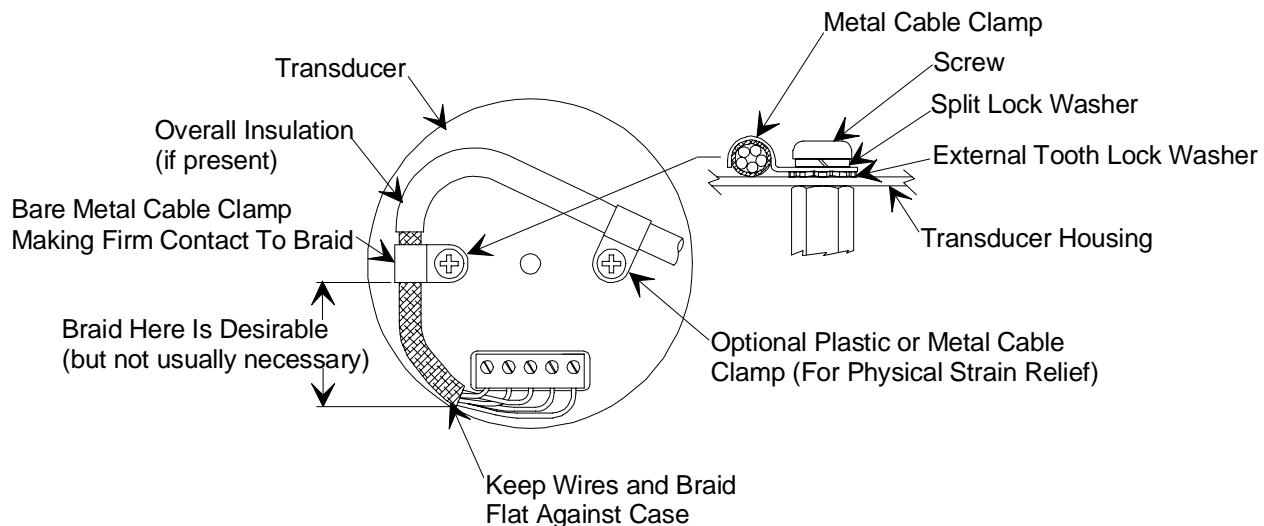

Figure 1: Preferred Method To Connect an Overall Metal Braided Shielded Cable
4. For shielded cables with flying leads at one or both ends; it is important at each such end, to ground the shield *before* the wires exit. Make this ground with absolute minimum length. Refer to Figures 1 and 2, page 22. (A  $\frac{1}{4}$  inch piece of #22 wire may be undesirably long since it has approximately 5 nH of inductance, equivalent to 31 ohms at 1000 MHz). After picking up the braid's ground, keep wires and braid flat against the case. With very few exceptions, grounded metal covers are not required over terminal strips. If one is required, it will be stated in the Declaration of Conformity or in the instruction manual.